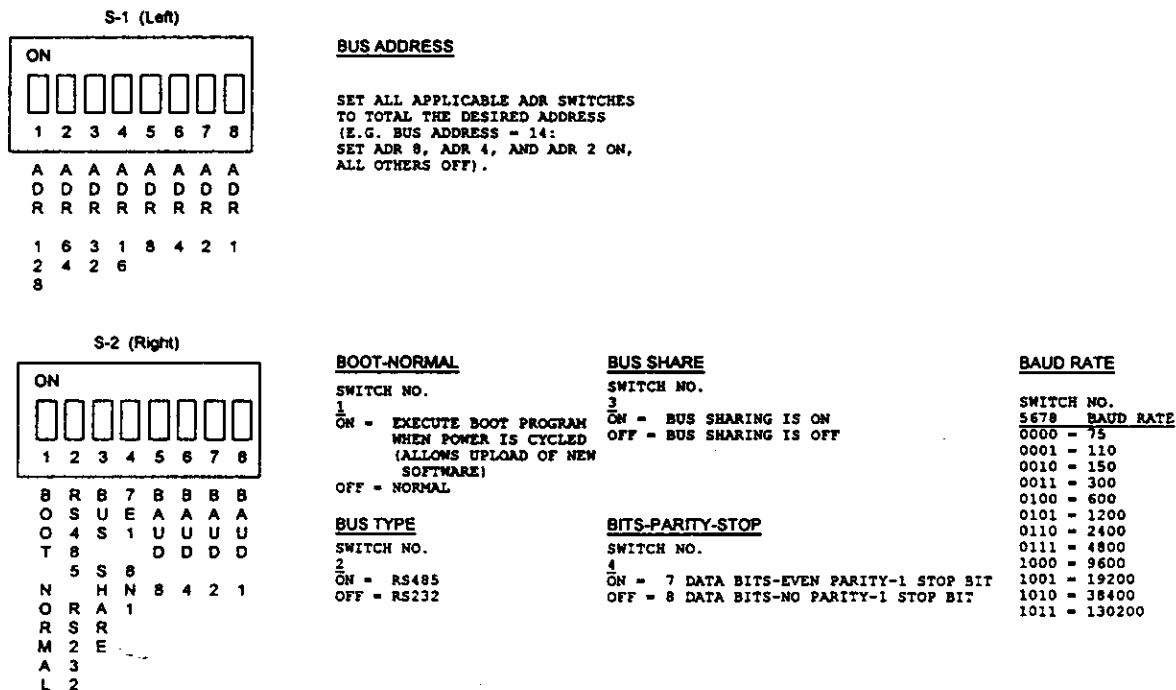

Figure 3-1 DIP Circuits - Switch Settings.
Before operating the equipment, set the DIP switches, on the rear panel, for correct remote operation (refer to figure 3-1). The factory default settings provide a starting point; where all DIP switches are OFF except for S-2(5) and S-2(7), which are ON to establish the baud rate at 38,400.